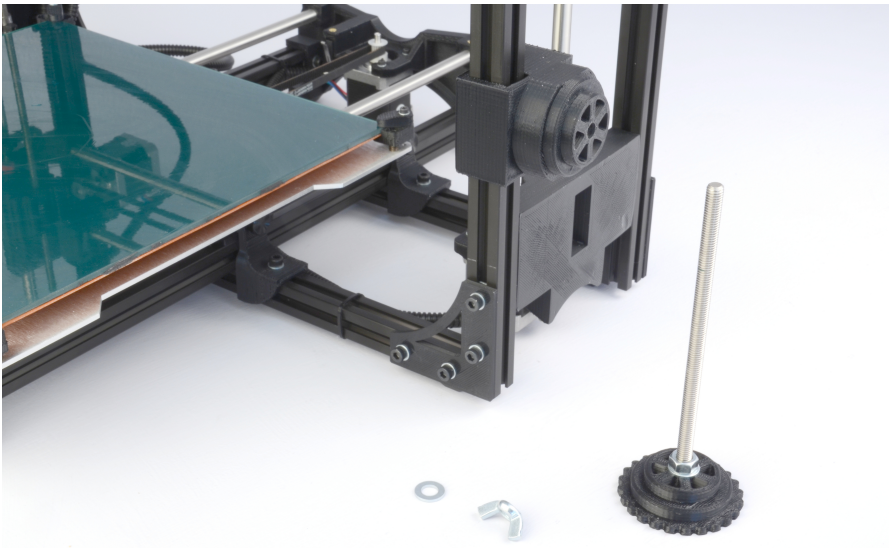

Figure 4.1: Filament spool mount parts
1. Locate the filament reel spindle and unthread and remove the wing nut and washer (fig. 4.1, page 88). Set the filament reel on to the rear reel mount with the filament feeding counter clockwise. Insert the reel spindle into the plastic filament reel.